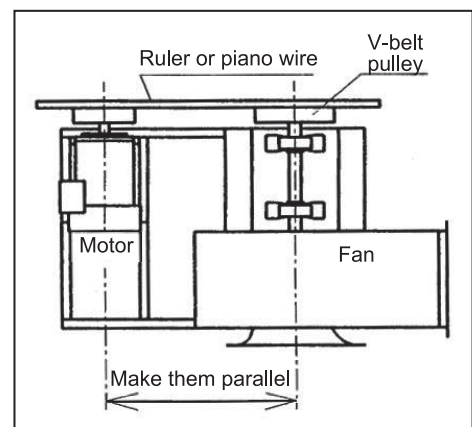

Figure 9 - How to carry out the alignment
- (1) As shown in Figure 9, place a ruler, a piano wire, or other tools onto the outer ends of the V-belt pulleys on the fan and motor sides, and check that the ends of the pulleys are in a straight line and adjust the positions if they are misaligned.
- (2) If you can depress the middle of the V-belt with your finger up to about the same depth as the thickness of the V-belt, the tension of general V-belts should be appropriate. Use the slide base of the motor to adjust the tension of the V-belt.
- (3) Stretch the high tension V-belts slightly tighter than general V-belts. Too loose tension may cause the belt to slip during startup, and excessive tension may apply a large load to the shaft and bearing, thus resulting in failure.
- (4) Since V-belts tend to loosen at the early stages of its use, ensure to readjust it in several days of use.